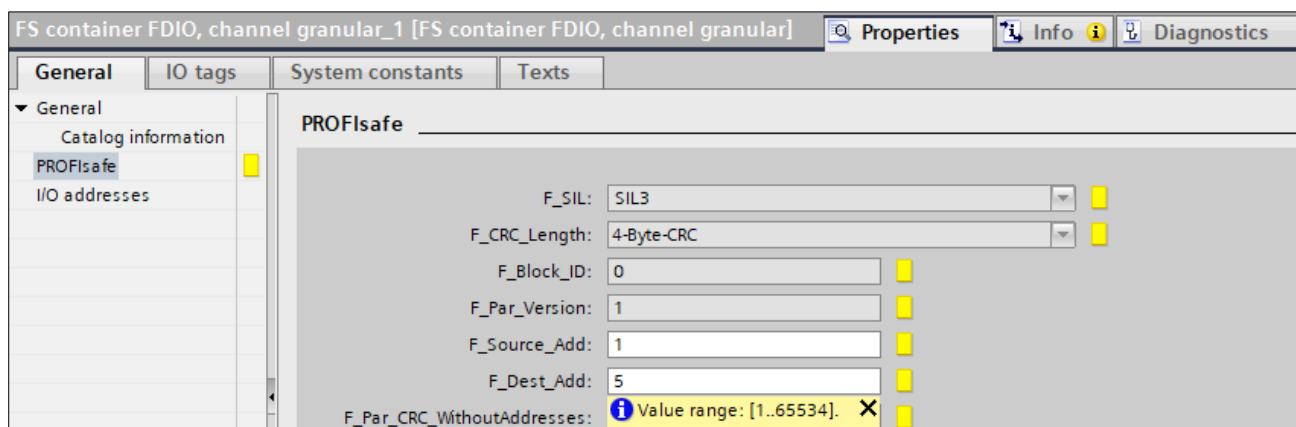

Figure 36: TIA Portal – PROFIsafe-Group » Setting up of PROFIsafe address “F_Dest_Add”
1. in the *TIA Portal* tool under the properties of the *PROFIsafe group* of the PDP67 device (see Figure 36)
If this is different from the F-destination address “[5]” configured and transferred by the TIA project (Figure 36 [29]), an automatic procedure is executed at the PASconfig tool.